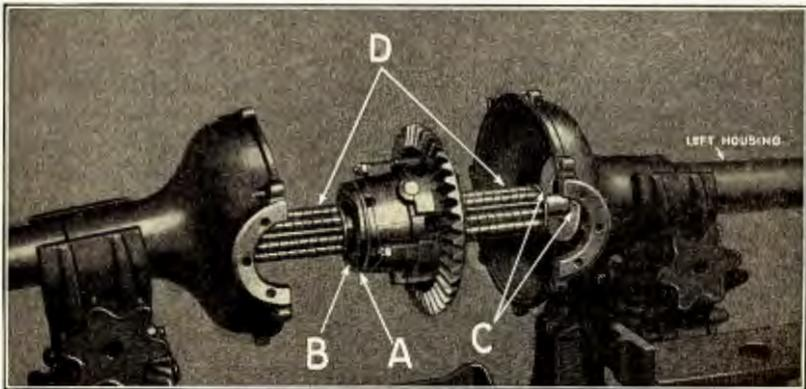

Fig. 350
- 613** Examine the four differential thrust plates and two washers for wear; if O. K. grease the parts and insert a thrust plate over end of each axle shaft, positioning them against differential cases (See "A" Fig. 350), making sure that dowel pin in case enters dowel pin hole in thrust plate.
- 617** Place a little cup grease on axle case gasket and position it on bell of housing. Insert housings over end of shafts, making sure that the left housing is placed over shaft on which differential drive gear is assembled (See Fig. 350).